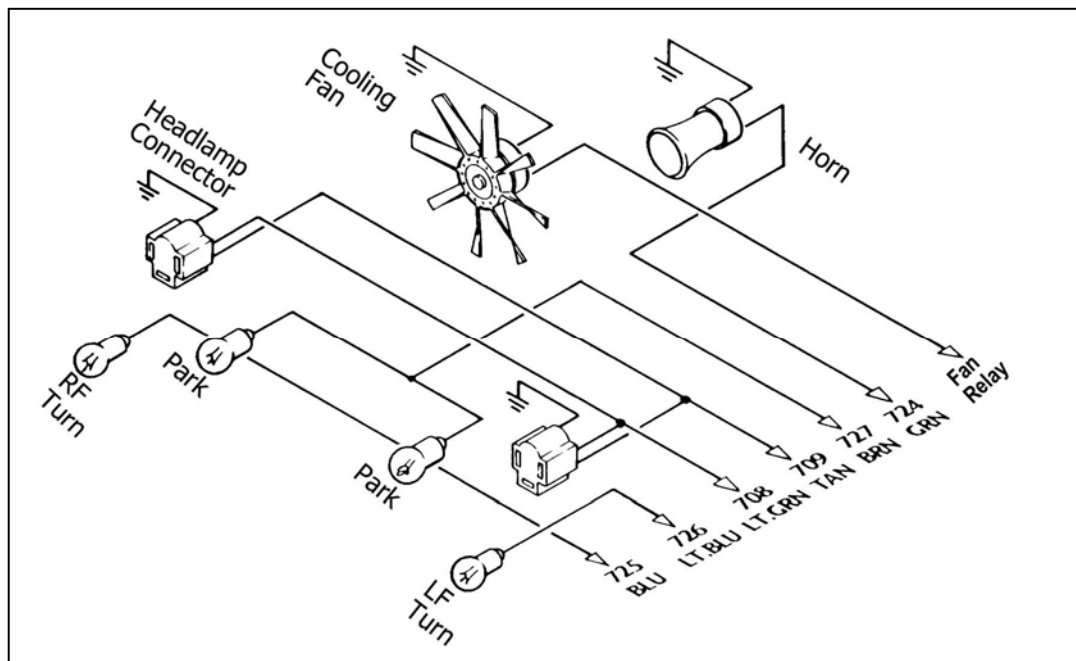

Figure 7.4 HEADLIGHT SECTION A
## 7.6 HEADLIGHT SECTION A. See Figure 7.4.
*Note: The wire going to the fan in Figure 7.4 will be coming from the fan relay output terminal. Wire #701 (gry/wht) from the ACCESSORY SECTION SWITCHES is an activation wire for the fan relay.*